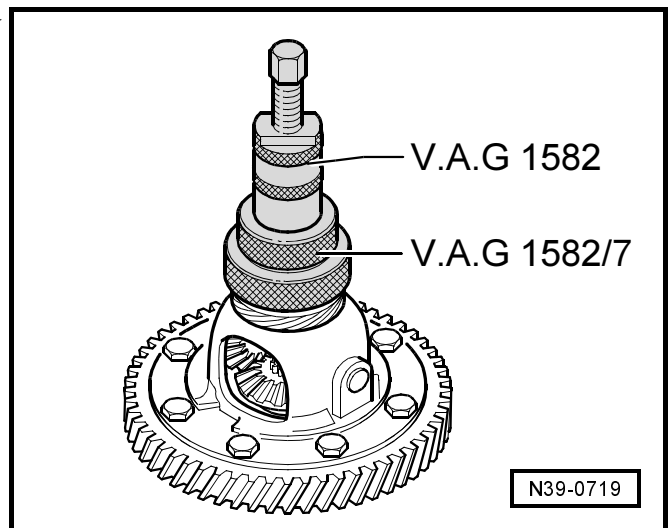

Fig. 4: Pressing on inner ring/tapered-roller bearing ▶
- pressing on ⇒ Fig. 4 in **39-2** page 4